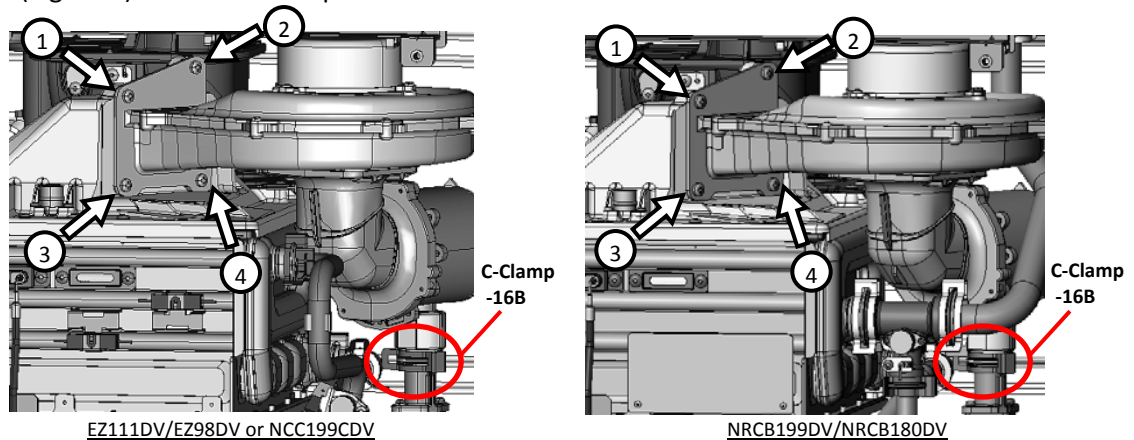

Figure 2
- 6) Remove the C-Clamp -16B. Then remove the 4 screws with a Long Philips screwdriver (Figure 2). Do NOT use a power drill.
13) Attach the C-Clamp -16B at the bottom of Venturi. **Failure to do so will cause gas leaks, possibly resulting in severe personal injury or death.** Secure the Venturi to the Burner Chamber by tightening the 4 screws removed in Step 6. The screws need only to be tightened by Long Philips screwdriver. It should not be tightened using a power drill. First, insert and tighten screws 1-4 (Figure 2), but do not fully tighten these screws. Once all screws are inserted, proceed to completely tighten screws 1-4 (Figure 2).